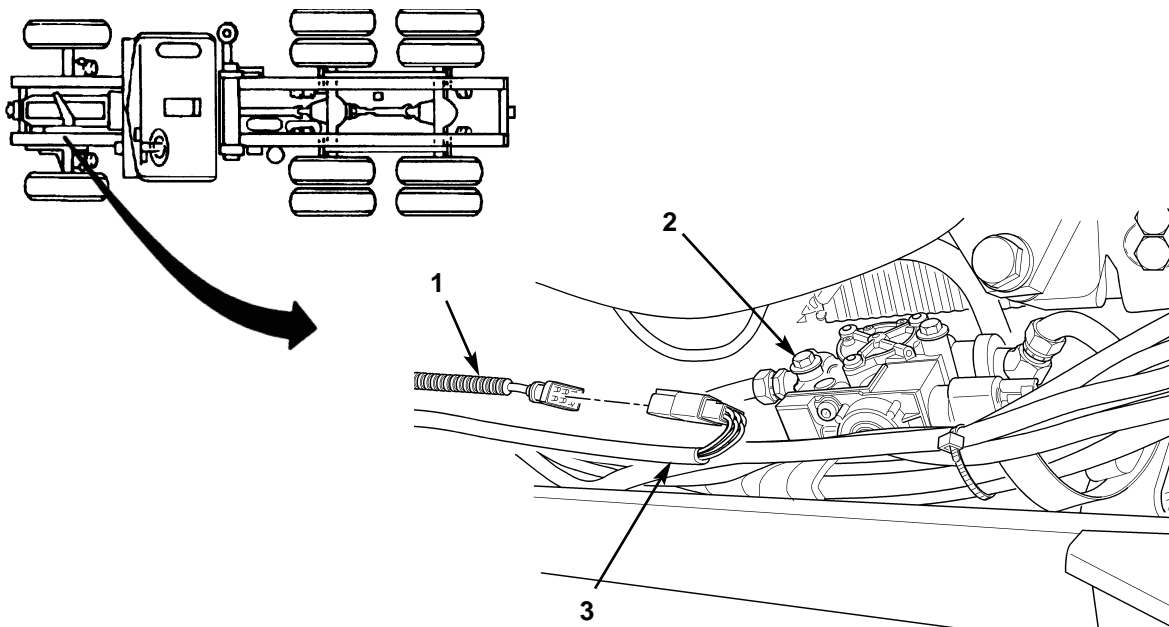

Figure 1. Disconnecting Wheel Sensor Cable at Front Modulator.
1. Disconnect wheel sensor cable (figure 1, item 1) from front wheel sensor harness (figure 1, item 3) located inside frame rail adjacent to front modulator (figure 1, item 2).